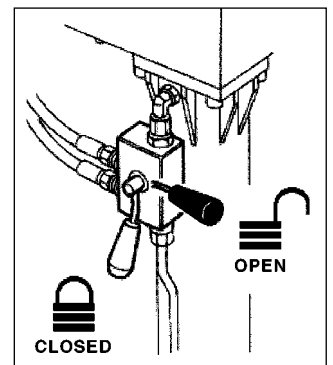

fig. 22
- (!) It is compulsory to close the outriggers rams valves taps before moving the truck. (Fig. 22)